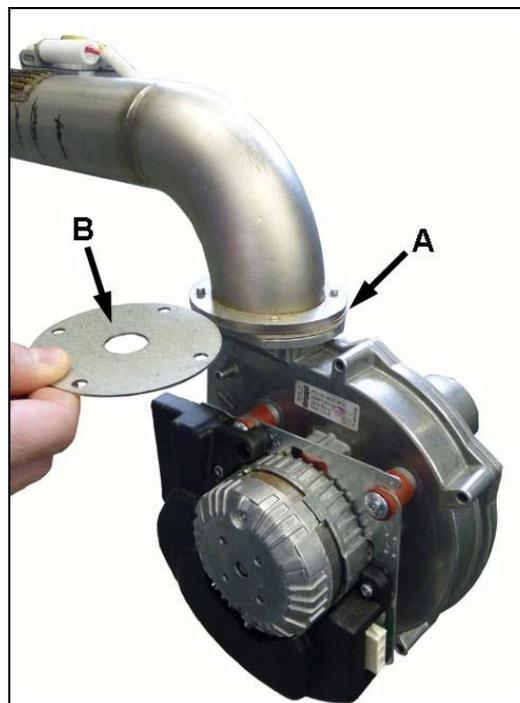

Fig. 5.12
Remove the junction (A) between the burner and the premixing fan and replace the existing injector (B) with an injector that is suitable for the new type of gas (Fig. 5.12).